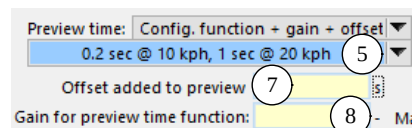

Figure 22. Appearance when a Configurable Function is selected.
When the drop-down list is set to **Configurable function** or **Config. function + gain + offset** a link is displayed under the drop-down control (Figure 22). The linked dataset is for the Configurable Function named TPREV, which is used internally to calculate preview time T varying with speed. When the option is set to **Config. function + gain + offset**, additional yellow fields are shown for the offset (7) and gain (8).